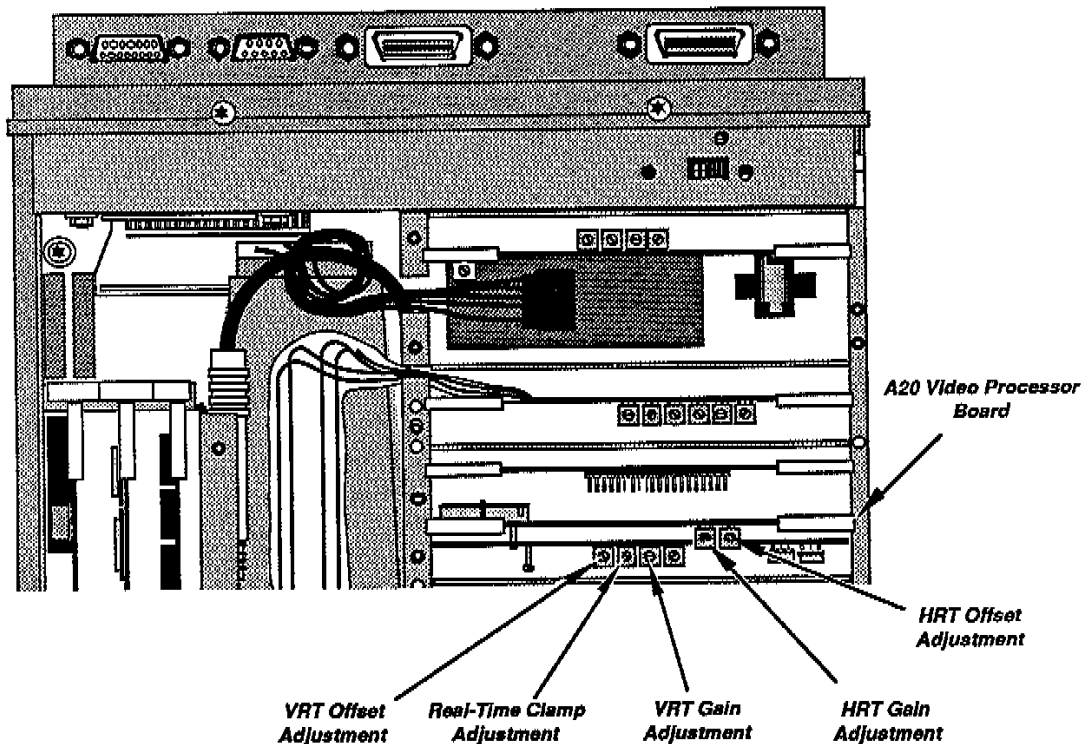

Figure 3-10. Video Processor Board.
2. Adjust the REAL-TIME CLAMP adjustment on the Video Processor board (shown in Figure 3-10), until the left half of the real-time clamped baseline is vertically just below the digitized baseline.
5. Alternately adjust the HRTGAIN and HRTOFFSET adjustments on the Video Processor board (shown in Figure 3-10) until the real-time display is positioned horizontally, directly over the digitized display.
6. Alternately adjust the VRTGAIN and VRTOFFSET adjustments on the Video Processor board (shown in Figure 3-10) until the real-time display is positioned vertically, directly over the digitized display.